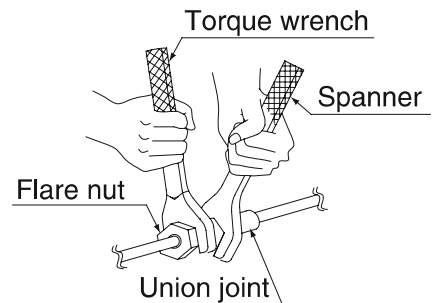

Fig.6
- When connecting the pipings to the air conditioner, make sure to use a spanner and a torque wrench as shown in **Fig.6**.